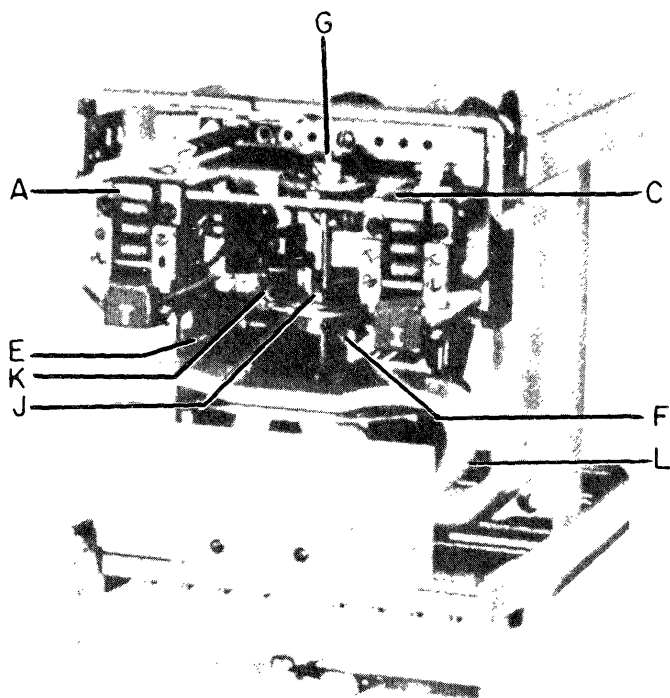

Fig. 2. Type IAC relay with instantaneous unit, typical of Type IAC51B
- A. Figure 2 on page 2 indicates that the reference letter for the Seal-in Unit (Left) is "A".